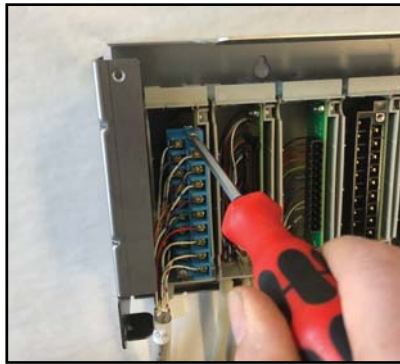

Figure 6a
a) Locate the field wiring terminal block which was disconnected in step 2a. Check the labels on the field wiring and on the conversion modules to verify that the connections are correct. Mount the field terminal block onto the conversion module and fasten screws (if applicable). (See figure 6a)